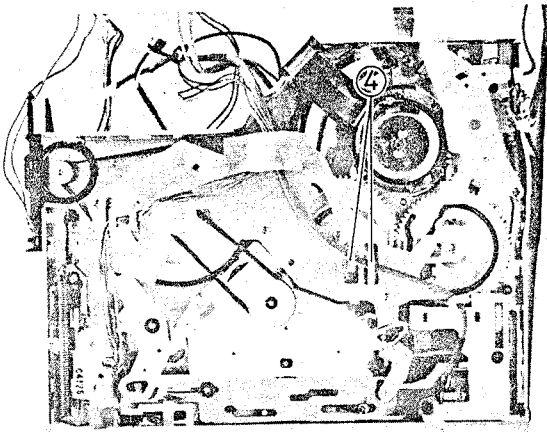

Fig. 2-75 Safety Tab Switch Removal
4. Remove the wires from the wire holders. (See Fig. 2-75)